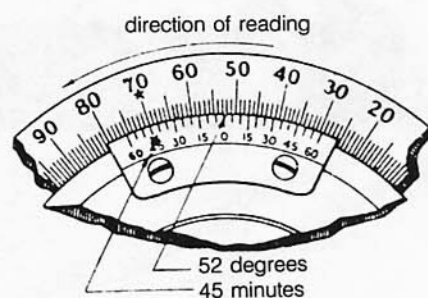

Figure 74 Vernier protractor reading of 52° 45'
- 2 Count the number of divisions on the vernier scale from zero to where a graduation mark on the vernier coincides with another on the main scale. This indicates the number of $\frac{1}{12}^\circ$ or 5 minutes. (Figs. 74 and 75 show examples of readings.)